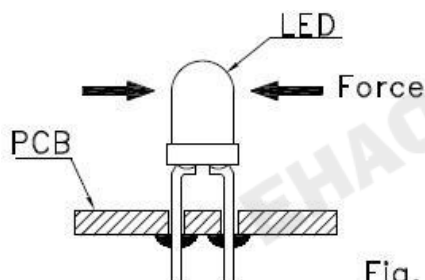

Fig. 9
6. After soldering or other high-temperature assembly, allow the LED to cool down to 50 °C before applying force (Fig. 9). In general, avoid placing excess force on the LED to avoid damage. For any questions please consult with LIGHT representative for proper handling procedures.